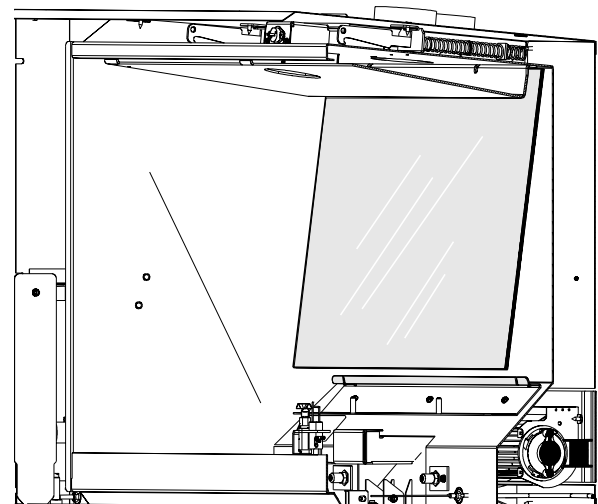

Figure 30. Cut-away view of Center Panel installation.
4. Lift the Center Panel up over the rear lip of the log retainer and set it on the shelf provided. Fig. 30.